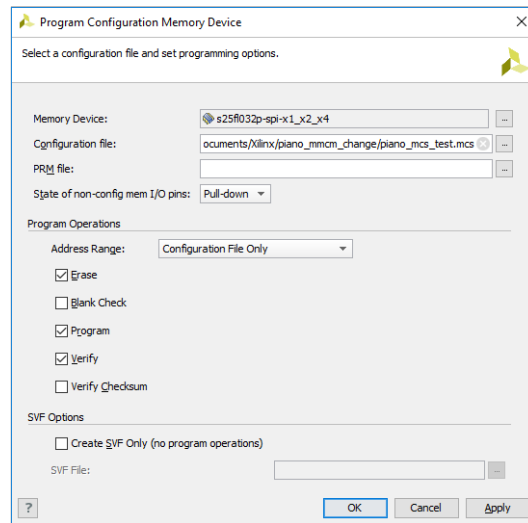

Figure 3.
5. Locate your .MCS file and click OK to program your flash device. Refer to Figure 3.